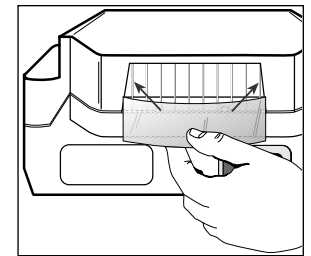

Figure 11
4. Insert clean filter into housing **Figure 11**.